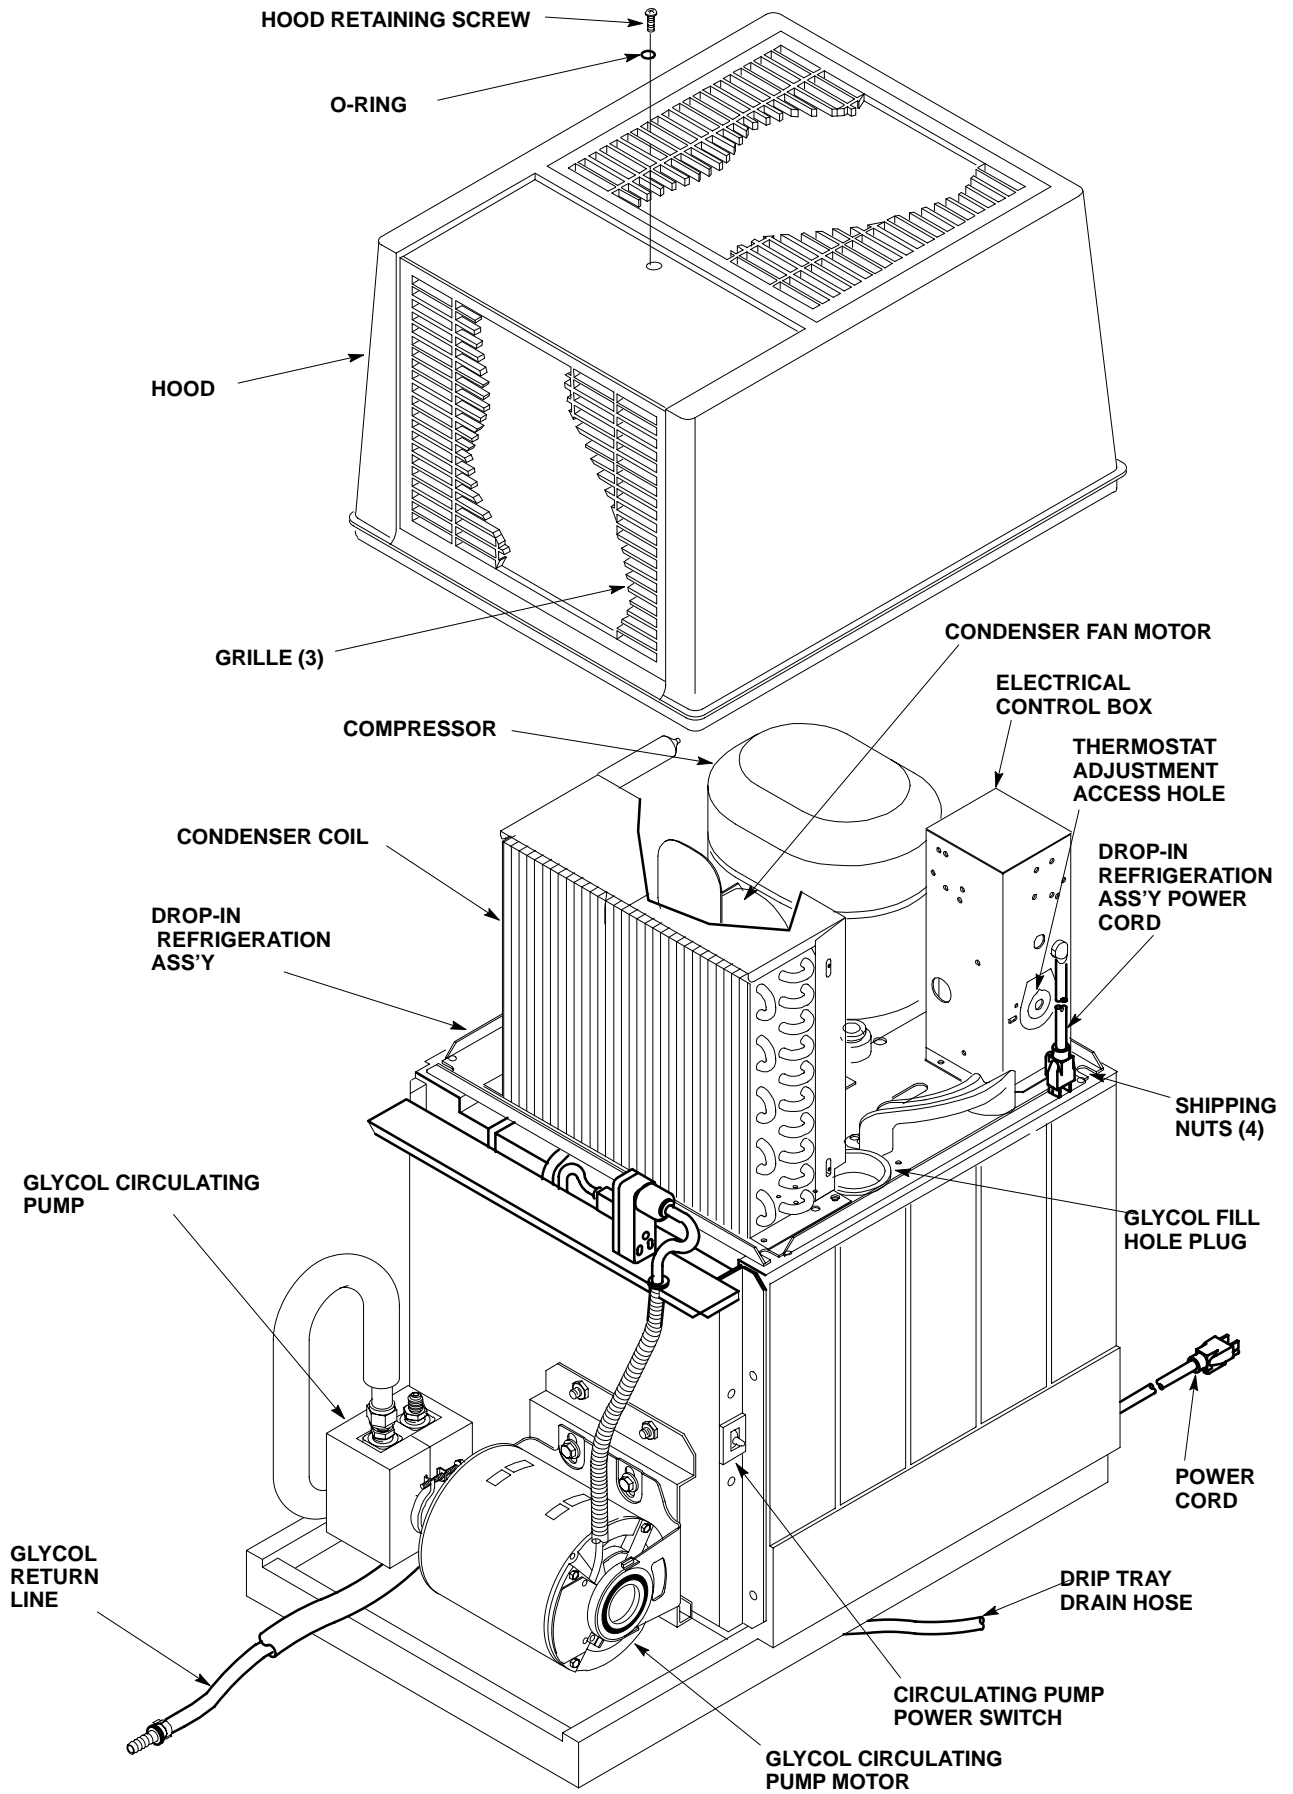

FIGURE 2. PARTS IDENTIFICATION
1. Make sure glycol circulating pump power switch on side of Cooling Unit (see Figure 2) is in "OFF" (down) position.
1. Place Cooling Unit glycol circulating pump power switch (see Figure 2) in "ON" (up) position to start circulating pump.